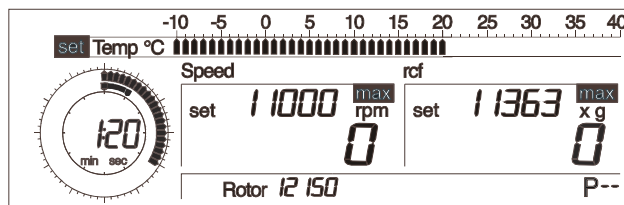

Fig. 5.16:
- Turn the left rotary knob until "set" appears in the display field in front of the parameter "Temp" (Fig. 5.16).